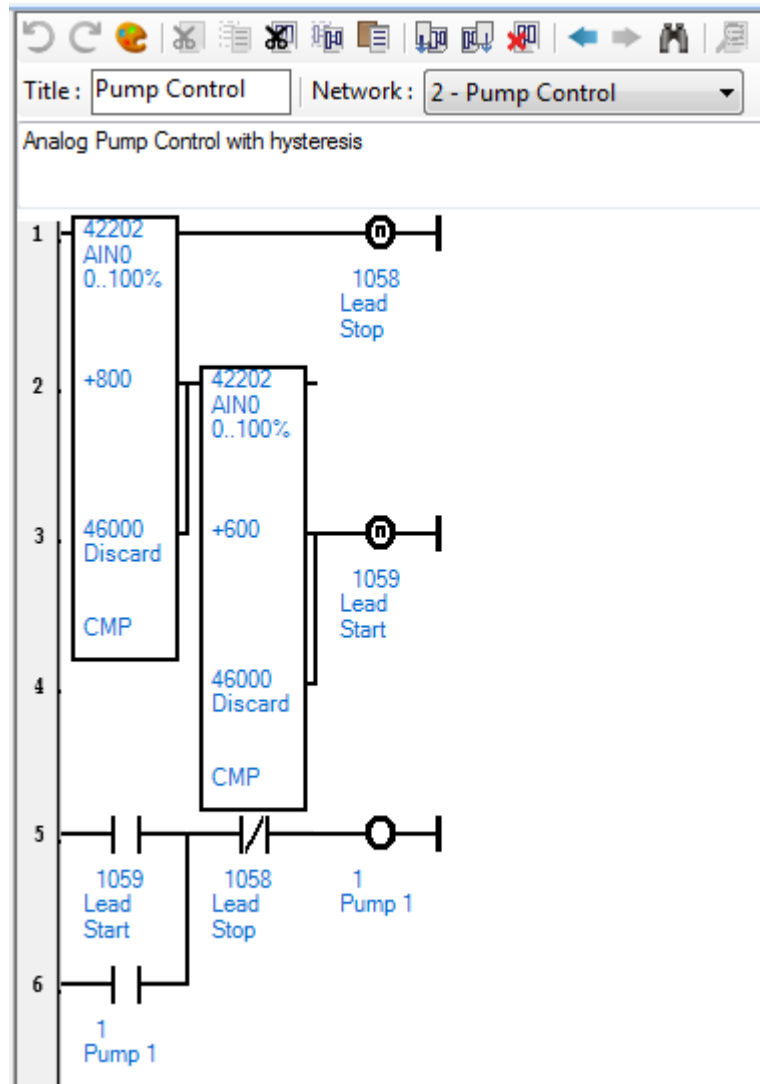

Figure 38A: Modified Set Point Network
- **Modify** the CMP functions in **Network 2** to use the scaled input values as shown in figure 38A.